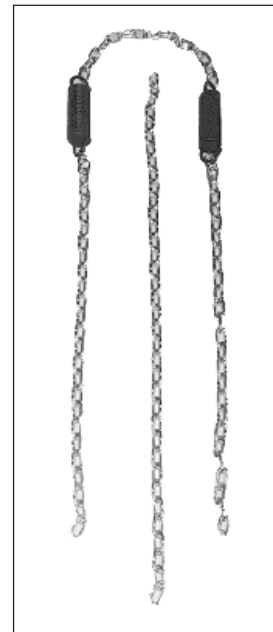

figure 2
**NOTE** - Refer to figure 2 during installation.